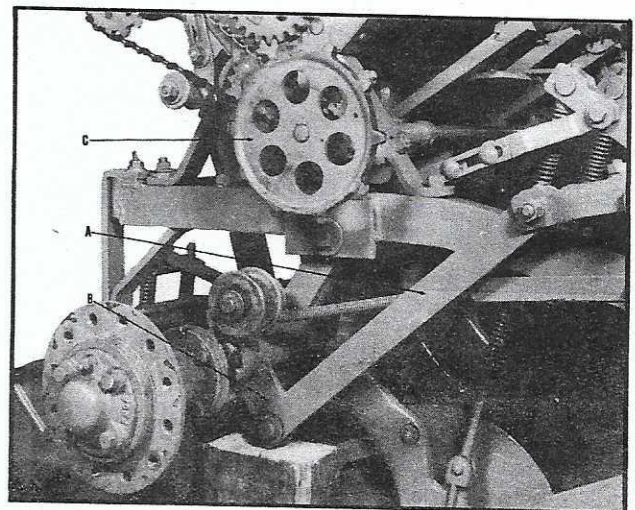

Fig. 8B
2. Remove all binding wires from main frame assembly. Attach lifting link, A, Fig. 8B, to axle arm support, B.
8. Assemble sprocket, C, to countershaft as shown in Fig. 8B.
10. Assemble clutch throw-out arms, D, Fig. 8B, to grain drill. Make adjustment, following guide on page 6.